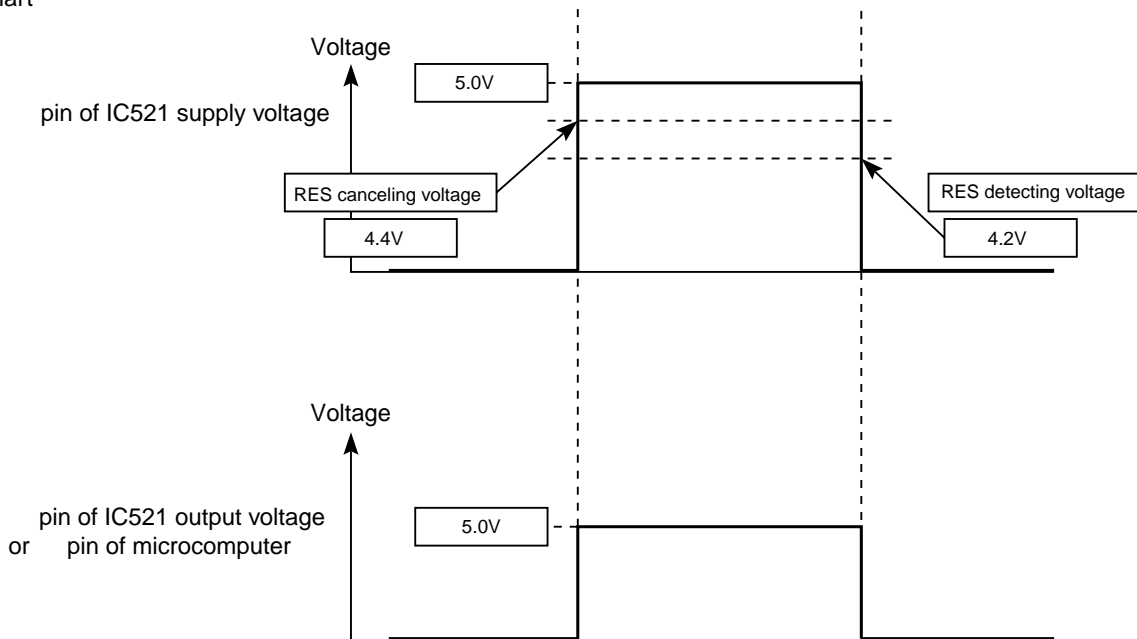

Fig.1-2
- Waveform of each part when switching ON the power and when shutting down is shown in the Fig. 1-2.